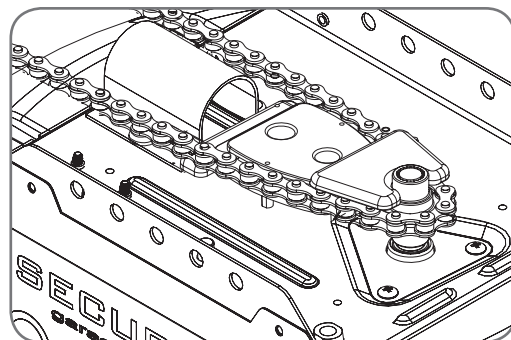

fig 03
- Wrap chain around powerhead sprocket and chain spreader (**Fig. 03**), then follow along the pipe to the idler wheel on support pipe assembly,
NOTE: Make certain that drive sprocket's teeth are engaged in the chain and that the chain is not twisted. Make sure that the chain is engaged in both the chain spreader and the support pipe assembly's idler wheel (**Fig. 03**)